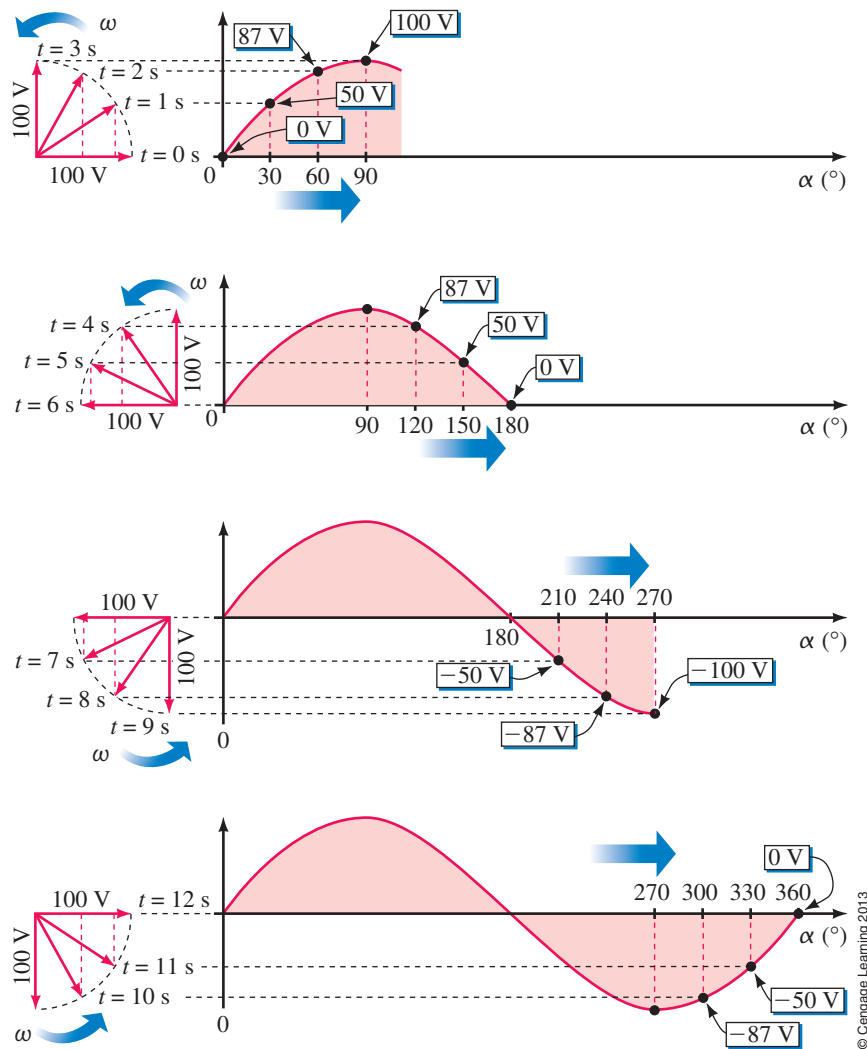

FIGURE 15-35 Evolution of the sine wave of Figure 15-34.
1. Although we have indicated phasor rotation in Figure 15-35 by a series of “snapshots,” this is too cumbersome; in practice, we show only the phasor at its $t = 0$ s (reference) position and imply rotation rather than show it explicitly.